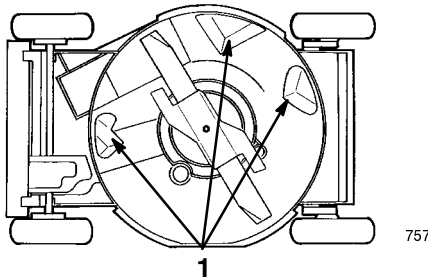

Figure 15
To ensure best performance, keep the underside of the lawn mower housing clean. Be especially careful to keep the kickers free of debris (Fig. 15).
3. Tip the lawn mower on its **left** side (air filter up) (Fig. 15).